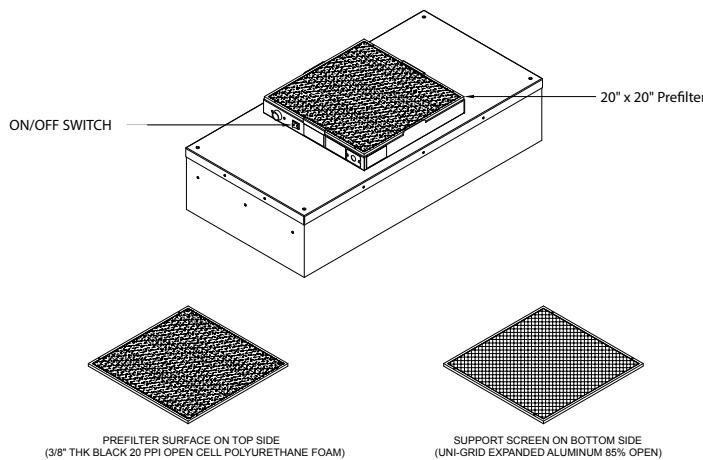

Figure 4: Foam Cleaning Prefilter
Step 3. Remove the prefilter from the snap-in frame. (See Figure 4, below.)